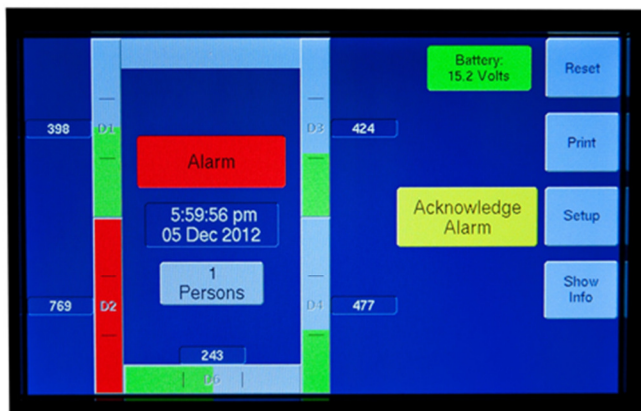
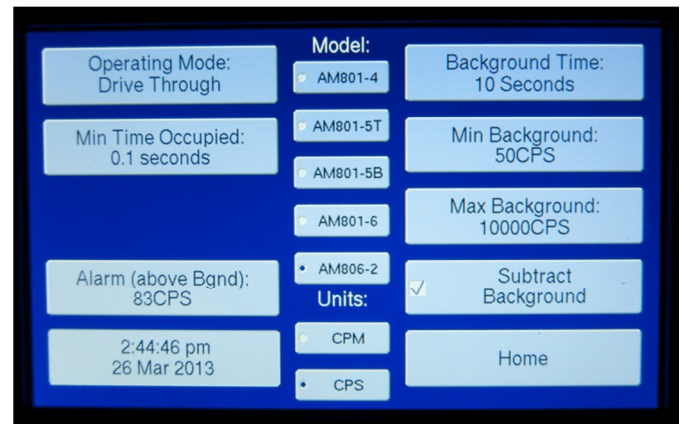

FIGURE 3
FIGURE 4
The operator can access the screen that displays selections for the following: Model of AM-801, Alarm Set Points, Operating Modes, and Operating Times touching the SETUP button which will cause this screen to appear. FIGURE 3 shows the portal in alarm and FIGURE 4 shows the screen that appears when the SETUP button is touched.
- 5.3.8 FIGURE 4 is the SETUP SCREEN. TO ADJUST FOR OPERATION ONLY, THE FOLLOWING MAY NEED TO BE ADJUSTED.